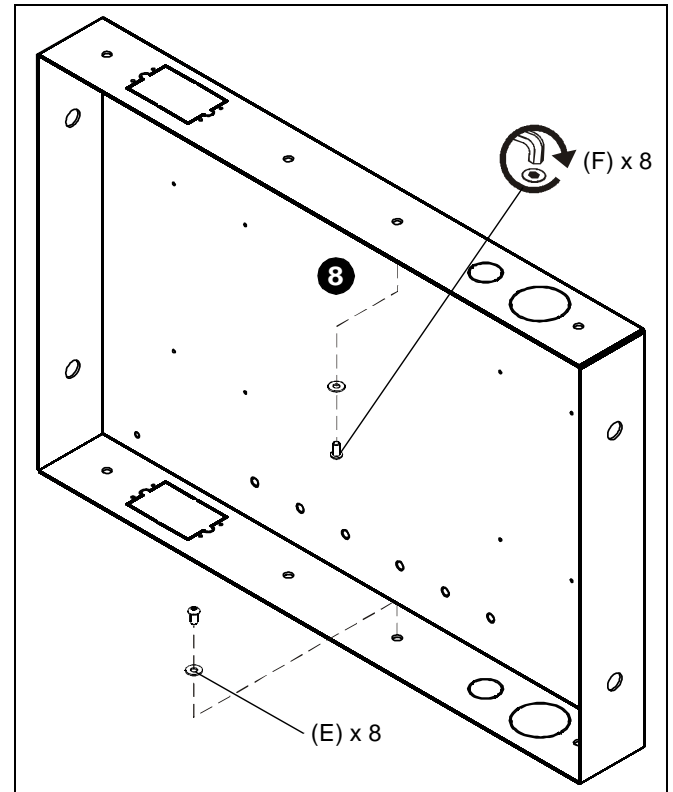

Figure 8
8. Secure PAC-501 enclosure to brackets using eight flat washers (E) and eight button head cap screws (F) using the 3/16" hex wrench (G) provided. (See Figure 8)